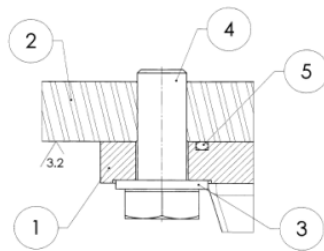

Fig.1 Schematic diagram of sealing structure of mounting surface
- 5、 The sealing structure of the connecting flange of the vibration equipment and the flanged vibration motor can be installed according to Figure 1 to achieve the protection level on the nameplate.